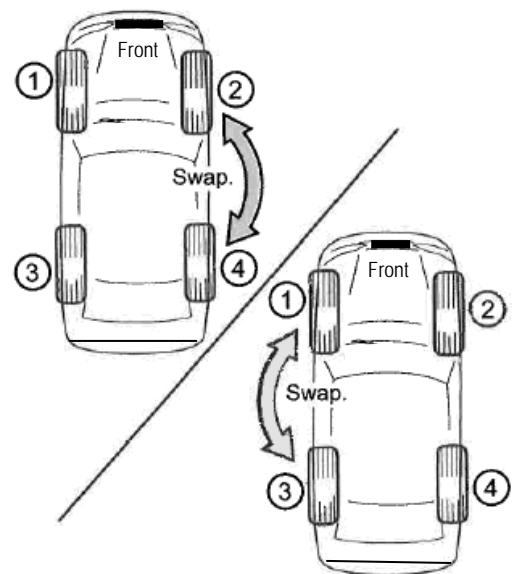

Figure 3
- A. Rotate tires 2 and 4 on the passenger side (see Figure 3) and road test.